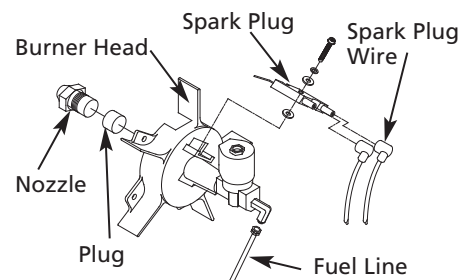

**Figure 13 – Spark Plug**
- Remove spark plug wire from spark plug (See Figure 13).